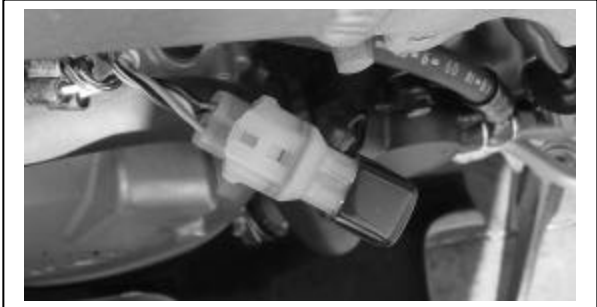

FIGURE 2
3. Connect the oxygen sensor eliminator into the stock wiring harness in place of the oxygen sensor you just unplugged (Fig. 2).